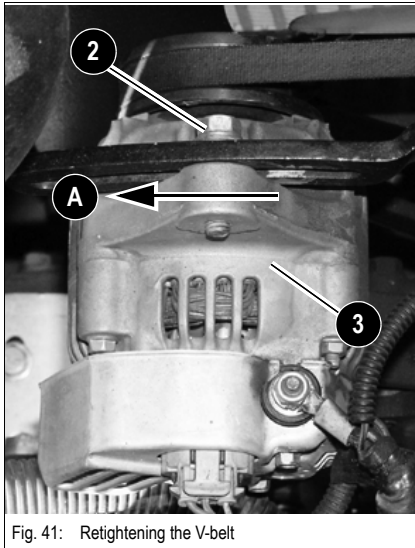

Fig. 41: Retightening the V-belt
- ☞ Use a suitable tool to push the alternator in the direction of arrow **A** until reaching the correct V-belt tension (fig. 41)